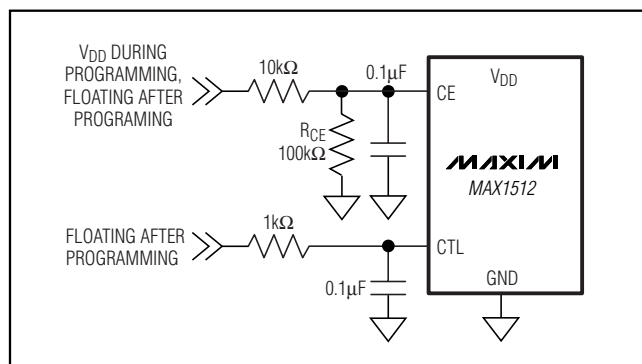

Figure 9. Improved EOS/Surge Performance
Often, CTL and CE are exposed at the panel connector and are therefore subject to electrostatic discharge (ESD). Resistor-capacitor (RC) filters can be employed at these inputs to improve their ESD performance (Figure 9).